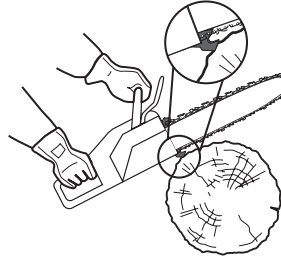

Fig. 33
- > The saw chain (3) must be running at full speed before it makes contact with the wood. Use the spike bumper (18) to secure the product onto the wood before starting to cut and use it as a leverage point while cutting (Fig. 33).